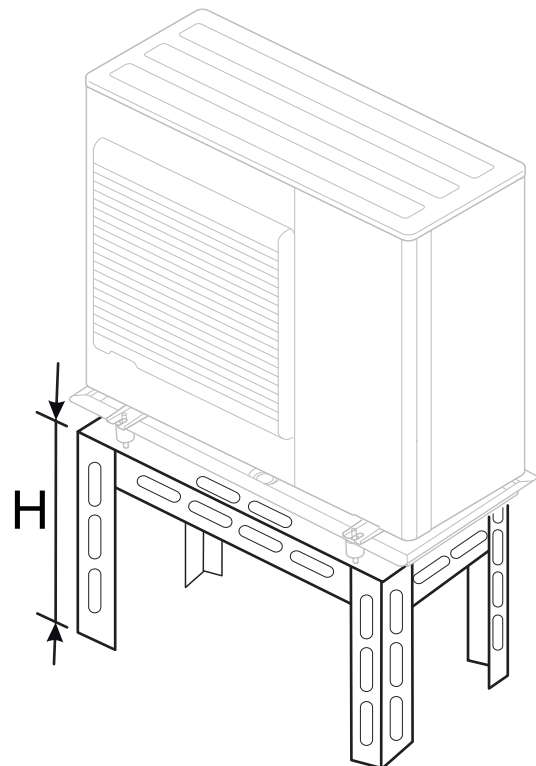

fig. 14 - Installation of the outdoor unit
- Water may flow out of the outdoor unit when it is operating. Do not install the outdoor unit on a paved terrace; choose a well-drained location (e.g. gravel or sand). If installation is carried out in an area where the temperature stays below 0°C for long periods, check that the presence of ice does not present any danger. A drain pipe can also be connected to the condensate drain pan (option) (fig. 14).
The outdoor unit must be raised at least 50 mm above ground level. In areas prone to snow, this height should be increased but should not exceed 1.5 m (fig. 14).